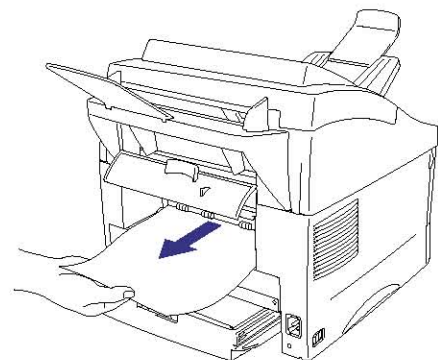

Fig. 7-3
- (6) Open the rear cover and pull the jammed paper out of the fixing unit. If you have to pull the paper towards the back of the printer, the fuser may get dirty with toner powder and may result in toner scatter on the next printed page or pages. Print a few copies of the test page until the toner scatter on the printed pages stops. (Fig. 7-3)
- (7) Close the rear cover.
- (8) Install the drum unit and paper cassette and close the front cover.